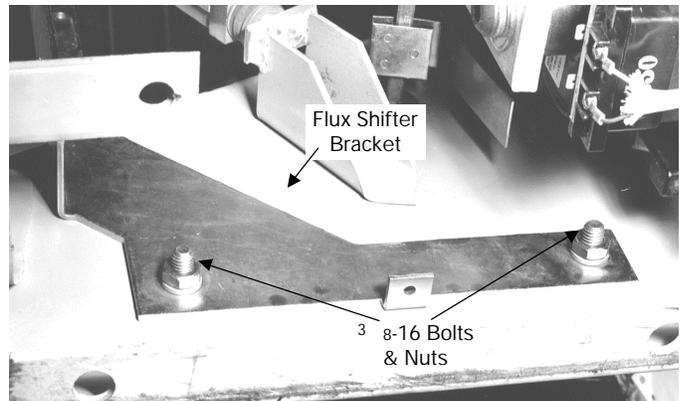

Figure 11. Flux shifter bracket installed on the front frame (view from underneath with breaker reassembled).
1. Remove and discard the grounding strap hardware on the left side of the front frame. Attach the flux shifter mounting bracket to the left inside of the front frame with the two $\frac{3}{8}$ -16 x 1" bolts, nuts, and lock washers provided, as shown in Figure 11 (showing the plate in position after reassembly of the front and back frames).